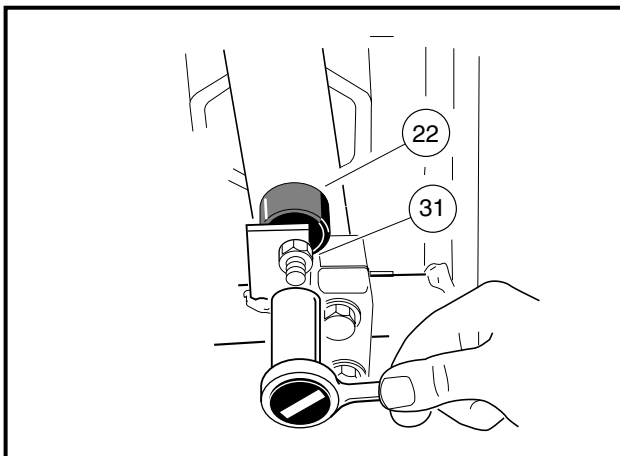
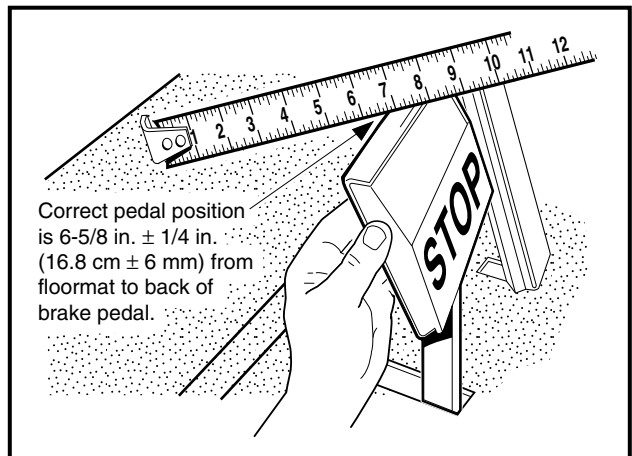

Figure 5-4 Adjust Brake Pedal Height
Figure 5-5 Measure Brake Pedal Height
3. Loosen, but do not remove, the brake stop jam nut (31) (**Figure 5-4, Page 5-3**).
4. Pull the brake pedal toward the rear of the vehicle until the brake stop bumper will not allow the pedal to travel any further (**Figure 5-5, Page 5-3**).
- Adjust the brake stop bumper (22) up to increase the distance between the pedal and the floorboard, or down to increase (Figure 5-4, Page 5-3). Proper brake pedal height is 6-5/8 inches  $\pm$  1/4 inch (16.8 cm  $\pm$  6 mm) (Figure 5-5, Page 5-3).
- Tighten the jam nut (31) to 8 ft-lb (9.5 N·m) (Figure 5-4, Page 5-3).